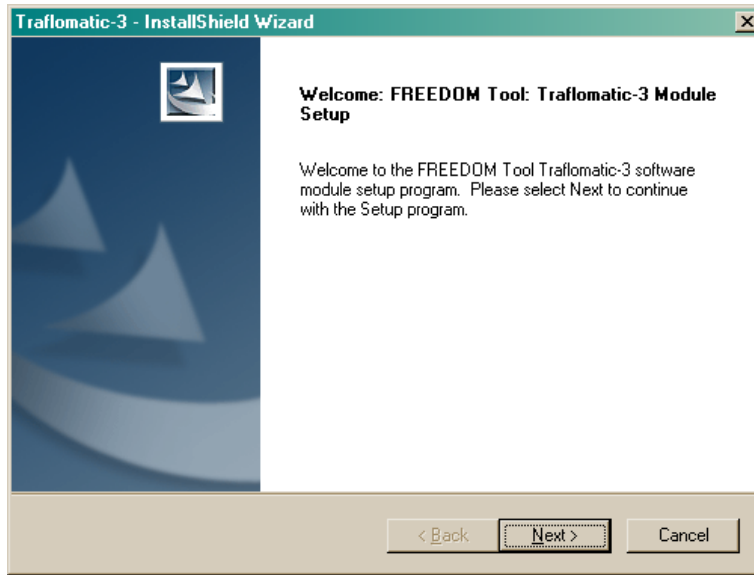

Figure 6
2. After selecting the **Install** pushbutton associated with the Trafromatic-III section of the FREEDOMWare Installer, the Install Shield Wizard will run showing a window similar to the one shown in Figure 6. To continue with the setup of the Trafromatic software module simply click the **Next** pushbutton with the PC's pointing device.